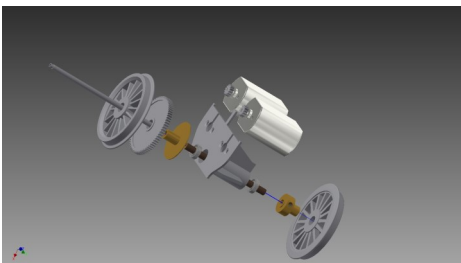

Figure 4
**Printing you own designs.** Obviously you want it to print what you want not a 25mm high model of a Dalek, though you will probably end up with lots of those. The machine runs on g code, this is produced by slicing software which requires a stl file. The latter is produced on a 3D CAD package or some other 3D software like SketchUp. If you can use 3D CAD you are more than half way there, if not then I suggest you look at Fusion 360 or SketchUp. I believe these are free and there are some sites on the web showing you how to use them. Figure 4 shows the drive unit I made for my Gauge 1 class 08.